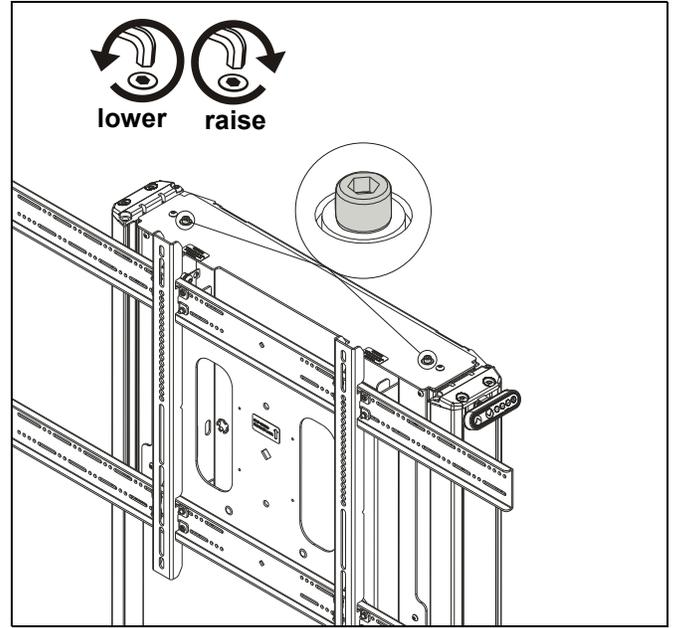

Figure 26
1. Use 3/16" hex key to adjust leveling adjustment screws on top of stand. (See Figure 26)